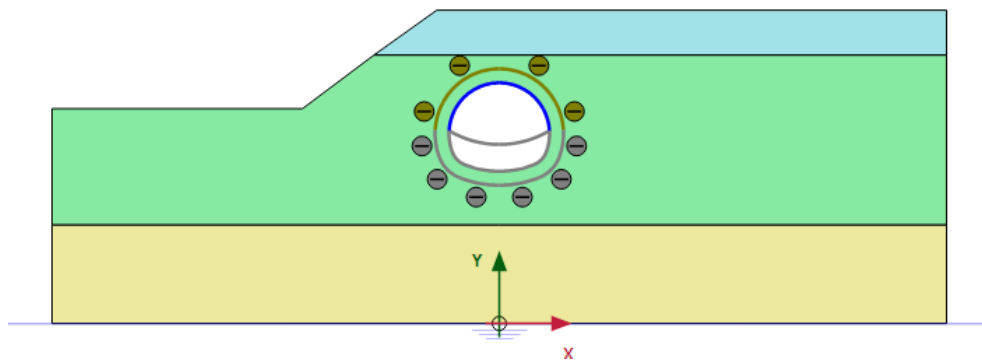

Figure 74: Configuration of Phase 3
4. The model for phase 3 can be seen in Figure 74 (on page 99).